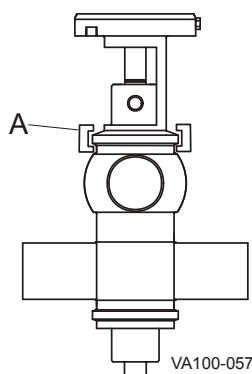

Figure 22 - Location of Adapter Clamp
- Remove the clamp between the yoke and the adapter (Figure 22, item A).
- Re-fasten the clamp between the yoke and the adapter (Figure 22, item A), then remove the air pressure to cycle the valve closed.